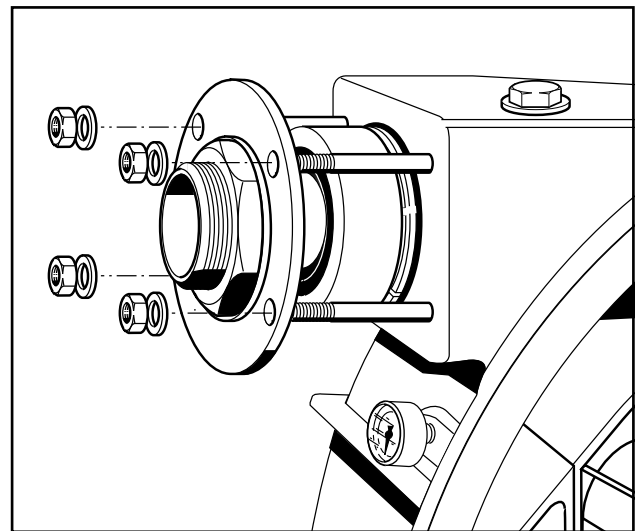

Fig. 14 Disassembly of connecting sockets
5. Unscrew both connecting sockets complete with retaining flange and hexagon tube nuts from the pump housing (Fig. 14) and pull both connecting sockets out of the pumping hose.